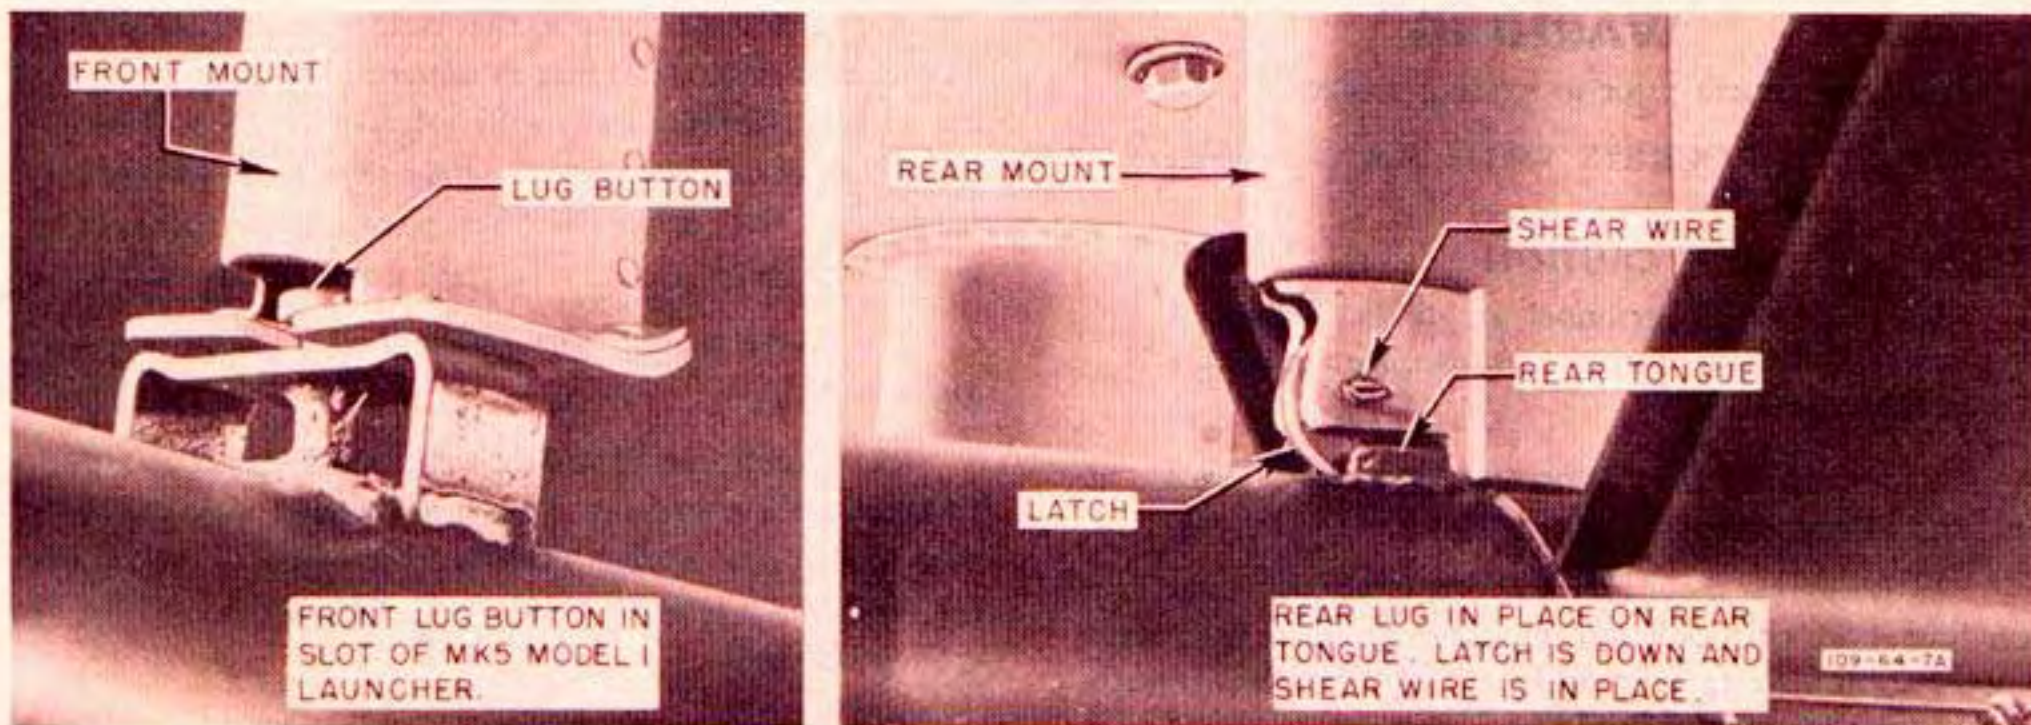

Figure 467A—Rocket Launcher Mounts With Rocket Installed
c. LOADING ROCKETS WITH SOLID NOSE. (See figure 467A.)